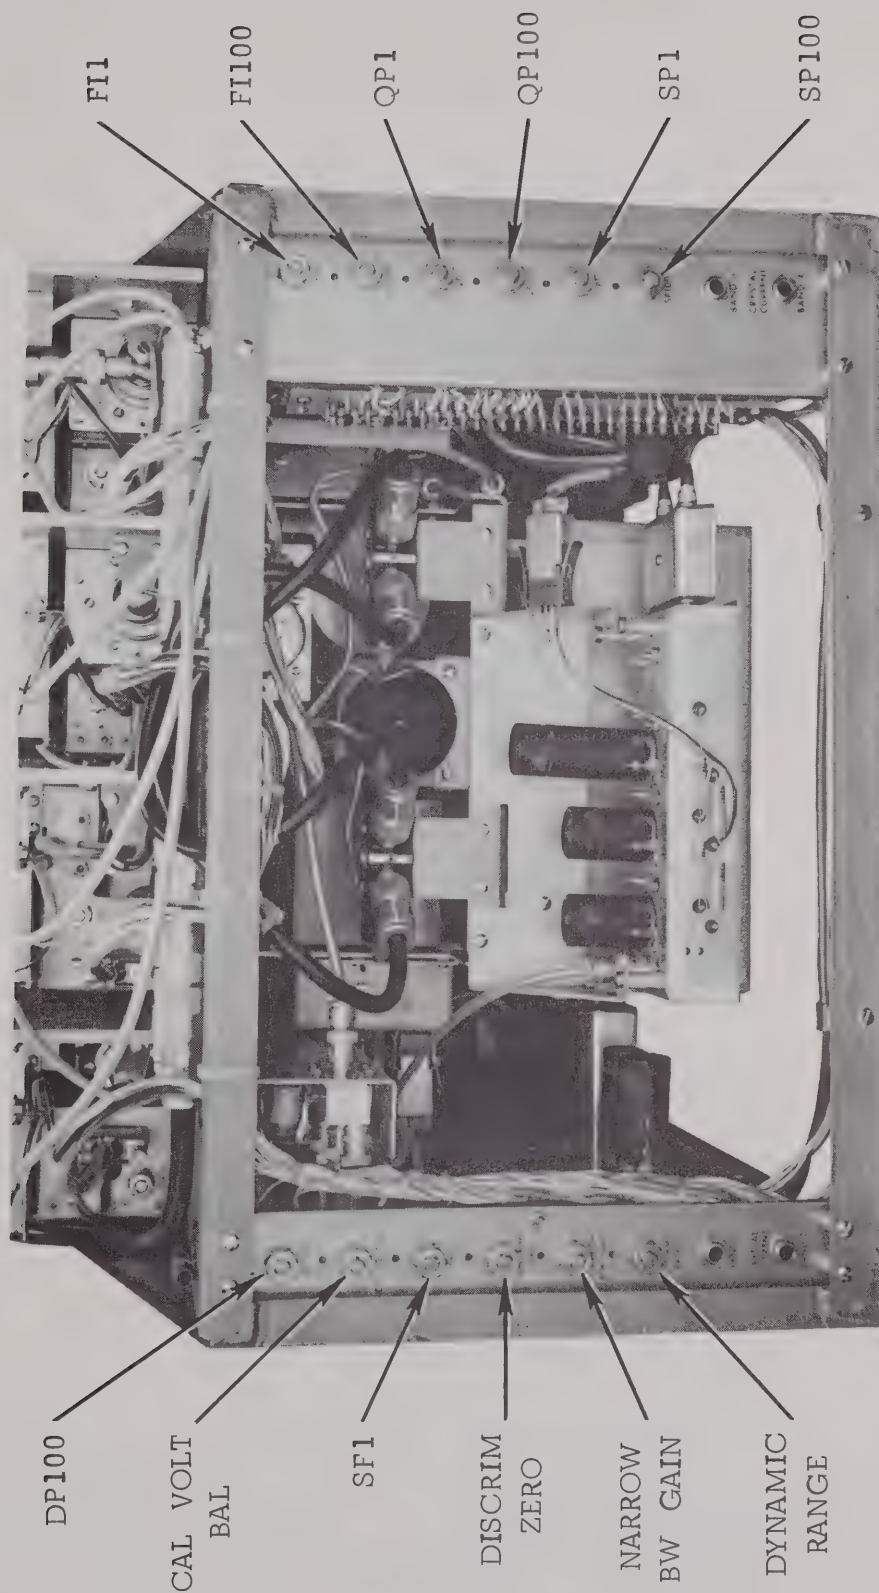

FIGURE 3-4. BACK PANEL ADJUSTMENTS
Adjust the CAL control to bring the meter reading to midscale (20 db). Increase the signal generator output by 20 db. Adjust the FI-100 potentiometer (see Figure 3-4) to bring the meter reading to the top of the scale (40 db). Decrease the signal generator output by 20 db (to 1 millivolt). Adjust the CAL control to bring the meter to mid-scale (20 db). Repeat these steps until the meter reads correctly at both mid-scale (20 db) and at the top of the scale (40 db).
Set the signal generator output to 100 microvolts, and adjust the FI-1 potentiometer (see Figure 3-4) to bring the meter reading to the bottom of the scale (0 db). Increase the signal generator output by 20 db, and adjust the CAL control to bring the meter reading to mid-scale (20 db). Decrease the signal generator output by 20 db (to 100 microvolts). Adjust the FI-1 potentiometer for a 0 db reading on the meter. Repeat these steps until the meter reads correctly at both points.
3.11.3 Direct Peak. - Rotate the METER FUNCTION switch to the DIRECT PEAK position, and adjust the signal generator to obtain a CW output of 10 millivolts. Adjust tuning for a maximum meter indication. Adjust the DP-100 potentiometer (see Figure 3-4) for a meter reading at the top of the scale (40 db). Reduce the output of the signal generator by 40 db (to 100 microvolts). Adjust the QP-1 potentiometer (see Figure 3-4) for a reading of 0 db at the bottom of the scale. Repeat these steps until the 0 db and 40 db readings are correct.
3.11.4 Quasi-Peak. - Rotate the METER FUNCTION switch to the QUASI-PEAK position, and set the QUASI-PEAK switch to the 0.05/600 position. Set the signal generator to provide a CW output of 10 millivolts. Adjust the QP-100 potentiometer (see Figure 3-4) to obtain a full scale reading (40 db).
3.11.5 Slideback Peak. - Rotate the METER FUNCTION switch to the SLIDEBACK PEAK position. Adjust the signal generator to obtain a pulse modulated output of 10 microseconds, a PRF of 1000 CPS, and an amplitude of 10 millivolts. Adjust the PEAK control to obtain a meter reading at the top of the scale (40 db). Adjust the SP-100 potentiometer (see Figure 3-4) to make the PEAK INDICATOR lamp flash at a low rate.
Decrease the signal generator output to 100 microvolts. Adjust the PEAK control to bring the meter reading to the bottom of the scale (0 db). Adjust the SP-1 potentiometer (see Figure 3-4) to make the PEAK INDICATOR lamp flash at a low rate. Repeat these steps until the 0 db and 40 db readings are correct.